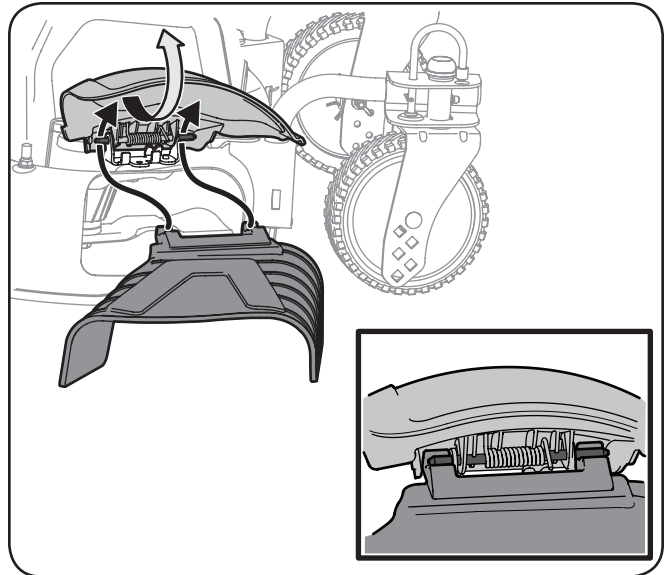

Figure 4-1
2. Pivot the mulch plug upwards, exposing the hinge mount. See Figure 4-1.
3. With the side discharge chute pivoted upwards, hook the tabs on the discharge chute under the hinge pin, as shown in the inset of Figure 4-1, and pivot the discharge chute downward and into place.